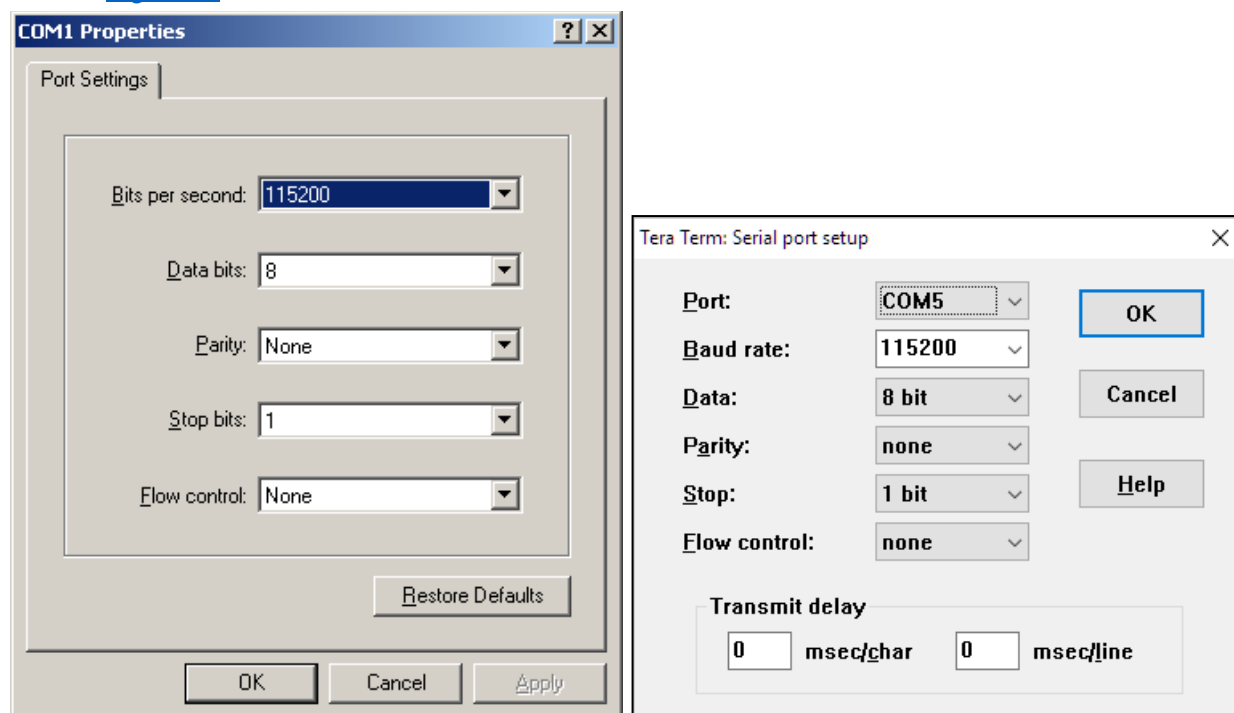

Figure 10. Setting of Windows XP Hyperterminal (left), and of Tera Term (right).
- Click **Configure** and enter/check the COM port settings. The result should normally be as in Figure 10.